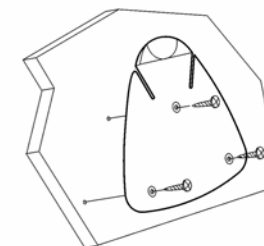

Fig. 2
2. Drill three 2mm holes marked “BRACKET” on the Template and using the supplied self tapping screws, attach the clip bracket to the mounting surface (Fig.2).